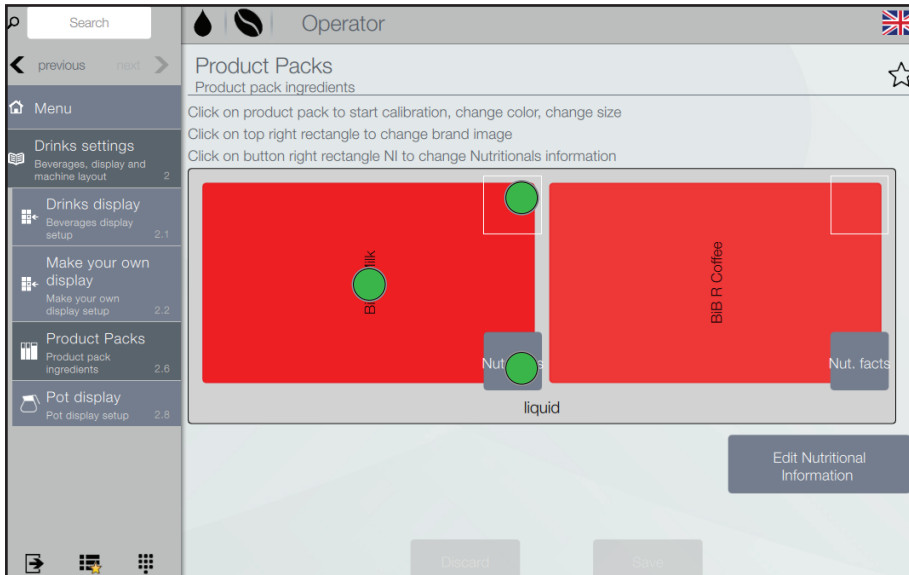

Fig. 6.10- Product packs
- Tap on menu items 2 > 2.6
- Tap on the requested product pack on the screen (fig. 6.10) to